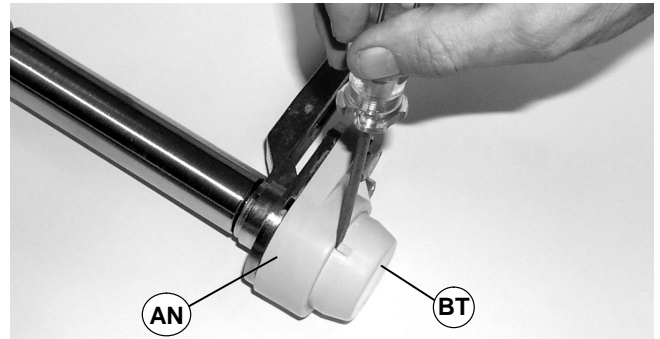

Figure 42
6. Use a screwdriver to remove bearing cover (BT of Figure 42) from tail assembly (AN).
9. Install two bearing covers (BT of Figure 42) on tail assembly (AN).